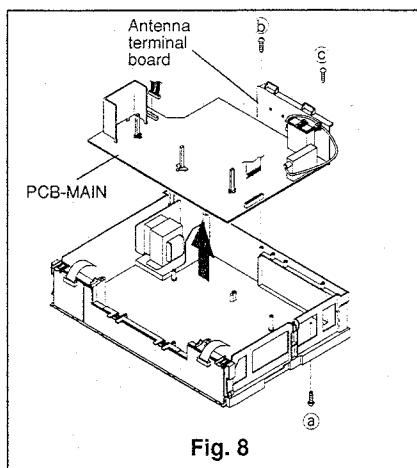

Fig. 8
- ⑤ If necessary to remove PCB-MAIN completely, remove the Assy Deck. (Refer to Para. 5 of the DISASSEMBLY.) Remove all connectors on the PCB-MAIN. Remove one fastening screw (⑤) on the bottom and two fastening screws (⑥ and ⑦) on the Antenna Terminal Board shown in Fig. 8. Raise the PCB-MAIN upward to remove it.